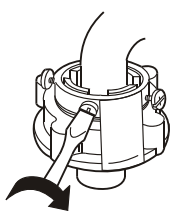

Figure 4
- 3 Fasten the four screws of the water inlet hose jointer evenly. See to Figure 4.